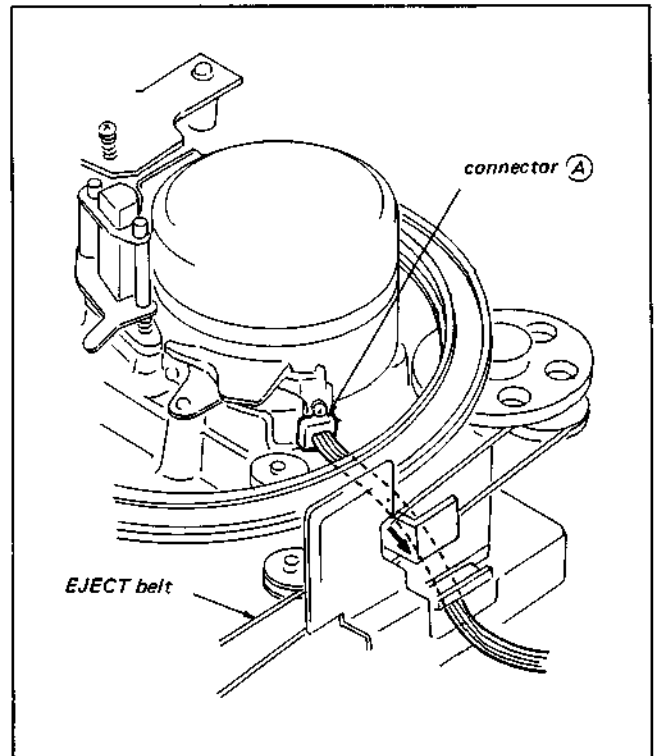

Fig. 3-6. Replacement of drum assembly (4)
Pull the leads of connector (A) in the arrow direction and dress the leads so that the leads do not touch the EJECT belt. (See Fig. 3-6.)